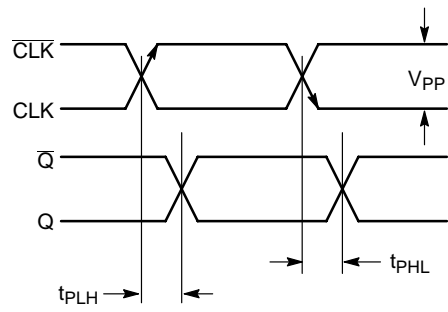

Figure 13. AC Reference Measurement
23. See Figure 13. t_{SKEW} = |t_{PLH} - t_{PHL}| for a nominal 50% differential clock input waveform.